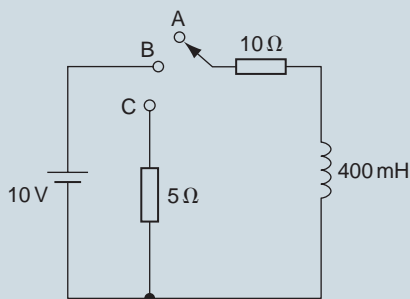

Figure 20.15
- In the inductive circuit shown in Fig. 20.15, the switch is moved from position A to position B until maximum current is flowing. Calculate (a) the time taken for the voltage across